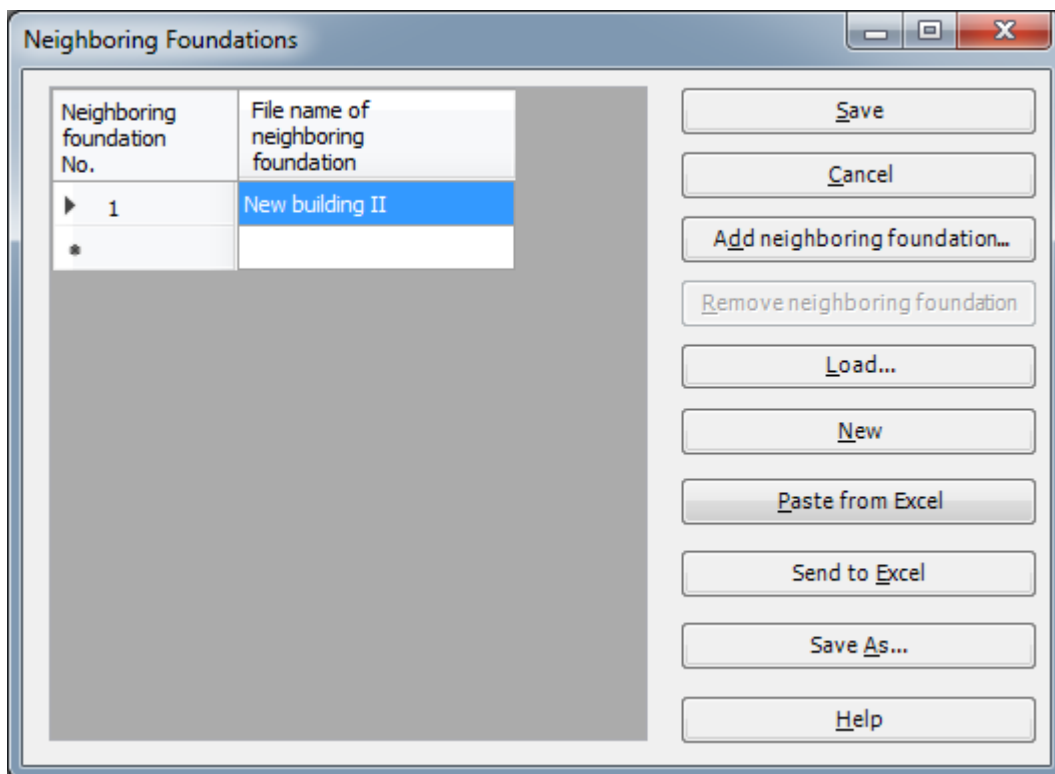

Figure 9.34 "Neighboring Foundations" menu
- Choose "Neighboring Foundations" command from "Data" Tab, "Neighboring foundations" Wizard Figure 9.34 appears
- Click "Add neighboring foundations" button in "Neighboring Foundations" menu in Figure 9.34 and open the project "New Building II"